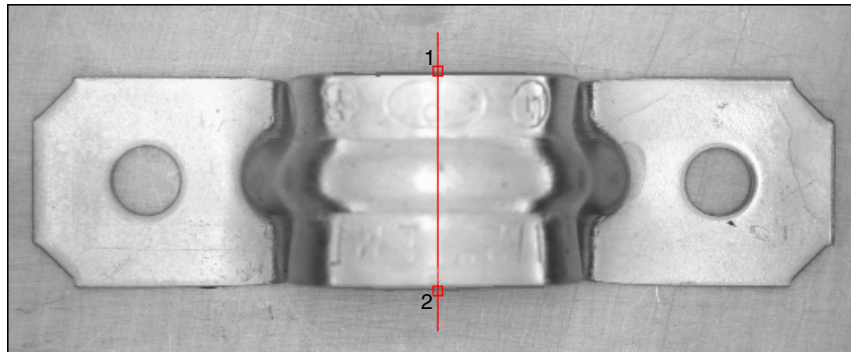

Figure 4-5. Finding the Edges for Bracket Distance
5. Click and drag to draw a vertical line across the middle of the bracket to find the edges that you can use to calculate Width Center, as shown in Figure 4-5. IMAQ Vision Builder labels the edges 1 and 2.